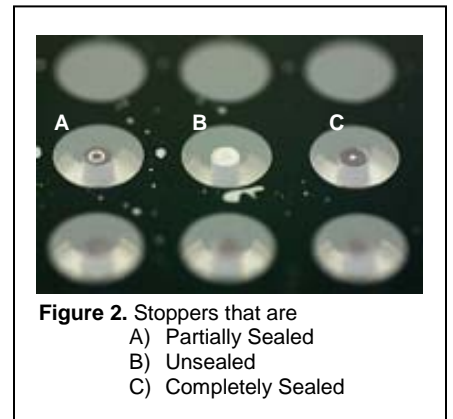

Figure 2. Stoppers that are
2. Visually inspect the underside of the populated 96-well plate to ensure that the Oris™ Cell Seeding Stoppers are firmly sealed against the bottom of the plate. To inspect the stoppers, turn the plate over and examine the stoppers for sealing (see Figure 2). If incomplete sealing is observed, return the plate to the upright position and use a sterile instrument to gently push the stopper back into the well until sealing is observed.